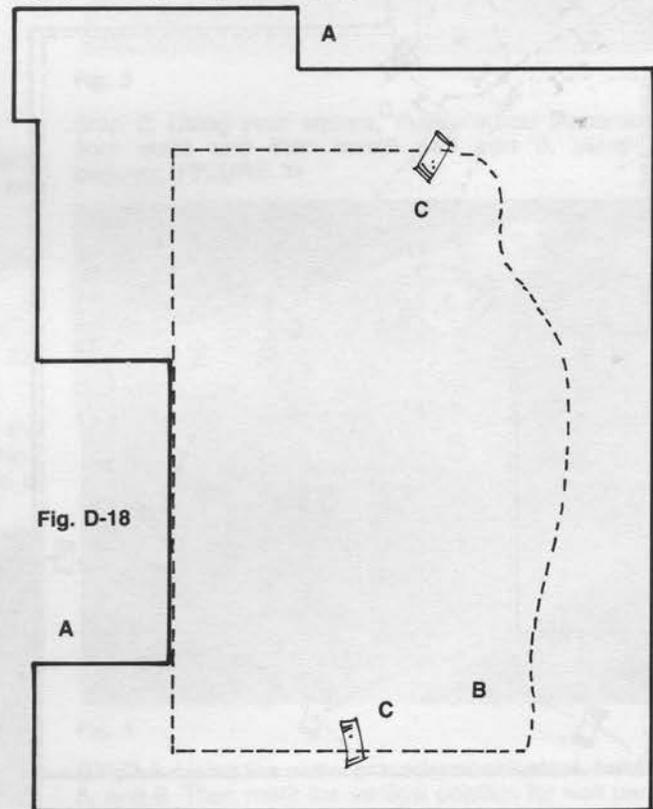

Fig. D-18
(FIGURE D-18) shows an imaginary, complex room area for which a floor is to be made, the solid line, (A) represents the walls, stair openings, etc.